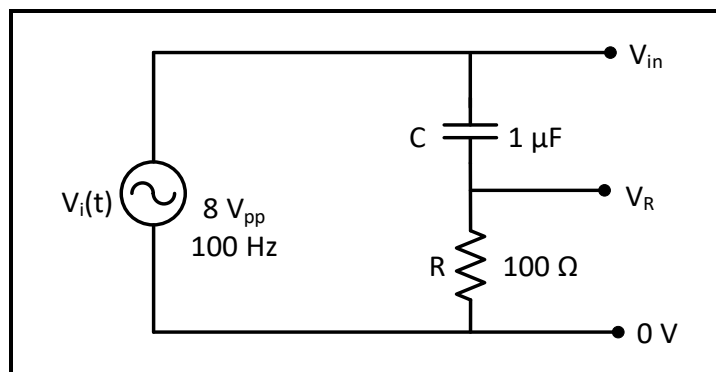

Figure 7.11
1. For the circuit shown in Figure 7.11:
1. Connect the circuit in Figure 7.11, set V_{in} to sinusoidal voltage at $8 V_{PP}$ and $f = 50$ Hz.